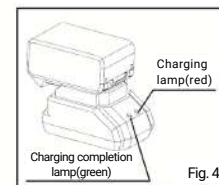

Fig. 4
- Plug the charger into the power source. The red charging lamp comes on, and charging starts. When the charge completion green lamp comes on, charging is complete. It takes about 90 minutes to complete charging. (Fig. 4)